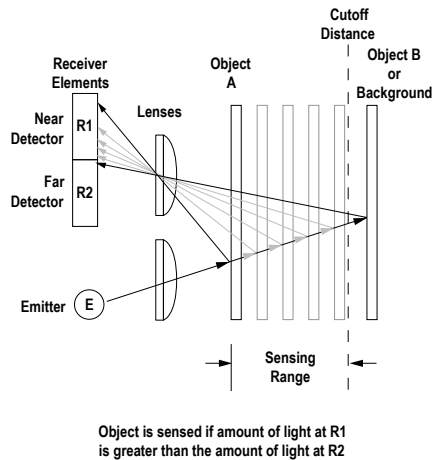

Figure 1. Fixed-Field Concept
The T30FF compares the reflections of its emitted light beam (E) from an object back to the sensor’s two differently aimed detectors, R1 and R2. See Figure 1. Fixed-Field Concept on page 2. If the near detector’s (R1) light signal is stronger than the far detector’s (R2) light signal (see object A in the Figure below, closer than the cutoff distance), the sensor responds to the object. If the far detector’s (R2) light signal is stronger than the near detector’s (R1) light signal (see object B in the Figure below, beyond the cutoff distance), the sensor ignores the object.